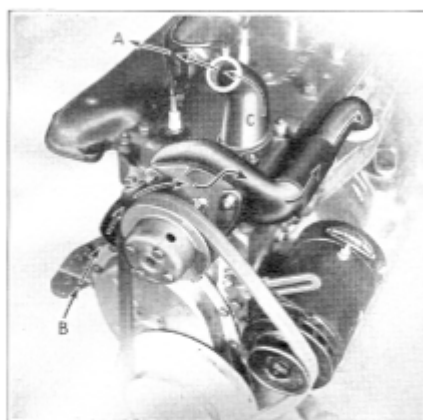

Figure 25
A choke type thermostat located in outlet (C), Figure 25, is used on